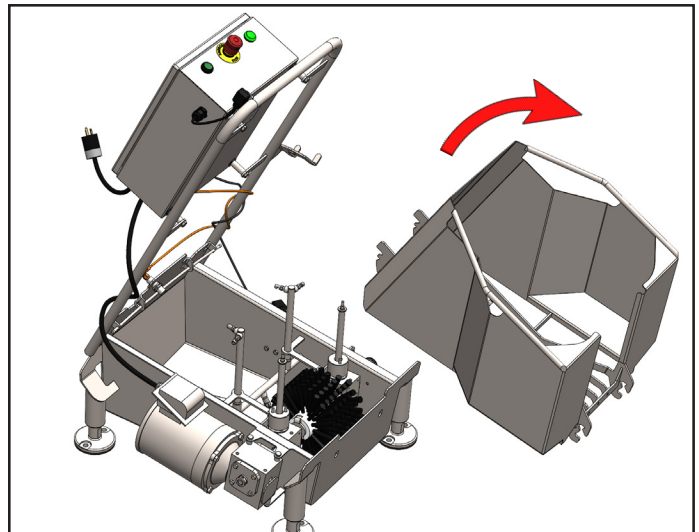

Fig. 8.2: Removing grate
3. Pull back the grate spring bar at the front of the unit, to release the grate [Figure 8.2].